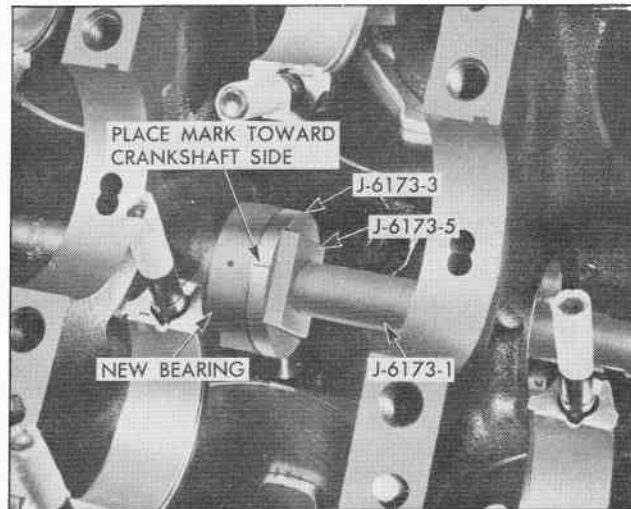

Fig. 4 Preparing To Install Bearing
3. Position Replacer Adapter J-6173-3, with bearing in position against shoulder, against rear of hole in which bearing is to be installed (Fig. 4). Index mark on shoulder of Replacer must point down (toward crankshaft side) to properly position bearing.
5. Slip key J-6173-5 into notches in shaft behind Replacer Adapter J-6173-3 and tighten nut to start bearing into hole (Fig. 4). Continue to tighten nut until bearing has been pulled completely into its hole. When properly positioned, it will be approximately flush with both sides of the transverse number. NOTE: Rear bearing should be pulled in until front edge is flush with block. This will leave shoulder at end of counterbore for camshaft rear plug visible behind bearing.